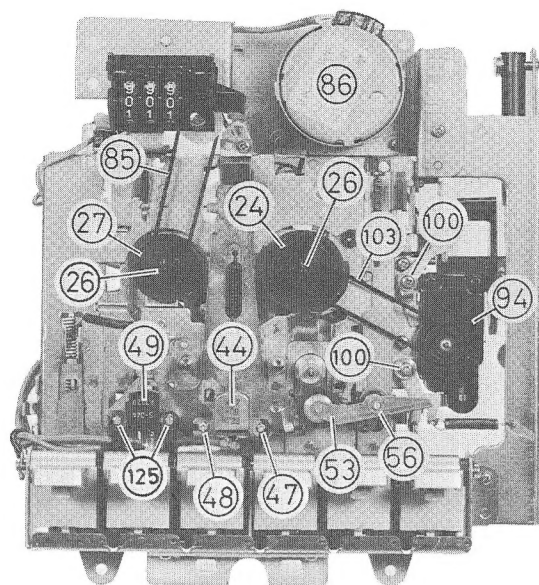

Fig. 21
**Note:** Reference numbers of Figs. 21 to 23 are the same as on Fig. 55.
**A. Erase Head (49) (Refer to Fig. 21)**
**B. Play/Record Head (44) (Refer to Fig. 21)**
**C. Pinch Roller Arm Ass'y (53) (Refer to Fig. 21)**
**D. Take-up (24) & Supply (27) Disks (Refer to Fig. 21)**
1. Detouch the belt (103) or (85)
2. Remove the reel stopper (26).
**E. Shut-off Ass'y (94) (Refer to Figs. 21 & 22)**
1. Detouch 2 belts (103) & (102).
2. Remove 2 screws (100).
**F. Motor (86) (Refer to Figs. 21 & 23)**